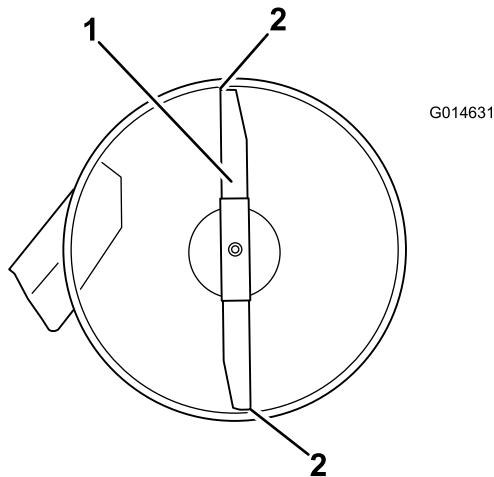

Figure 50
4. Carefully rotate the blades so they are facing front to rear (Figure 50).
5. Measure from the tip of the front blade to the flat surface and the tip of the rear blade to the flat surface (Figure 50).
9. After adjustment, check the front-to-rear slope again, continue adjusting the nut until the front blade tip is 1.6 to 7.9 mm (1/16 to 5/16 inch) lower than the rear blade tip (Figure 50).